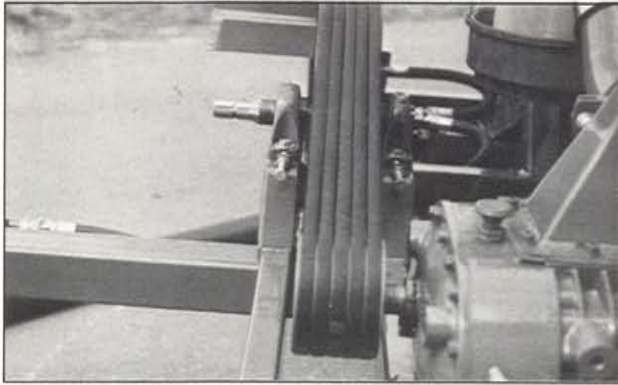

Figure 27 V-belt drive adjustment
4. Use the adjusting bolts to move the pulley assembly to apply the proper tension to the belts and also to properly align the pulleys with each other. (see figure 27)